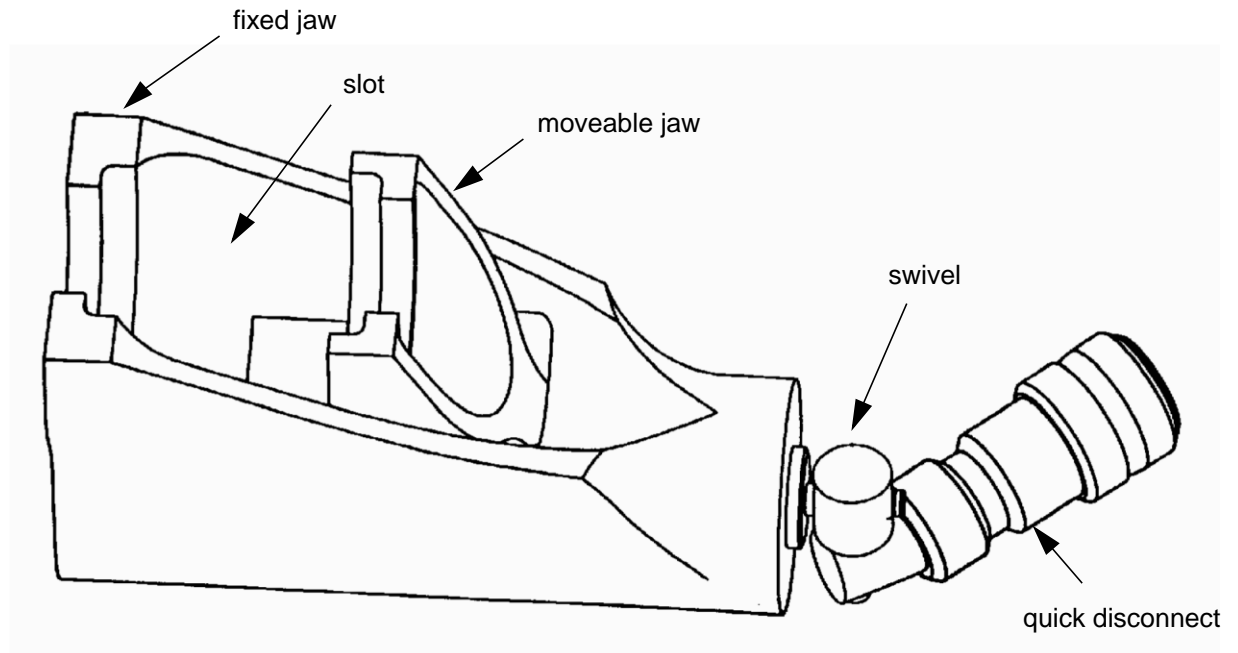

Figure 1 - Deutsch Axial Swage Tool
4.2.2 Deutschlite tool kit as specified in Table 1 (see Figure 1), certified according to section 5.2.